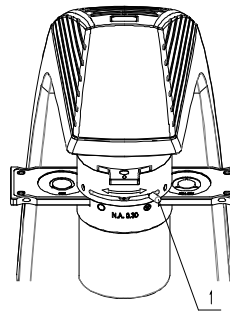

Fig.6 Adjustment of Aperture Diaphragm
3.1.2 Aperture Diaphragm (Fig.6)